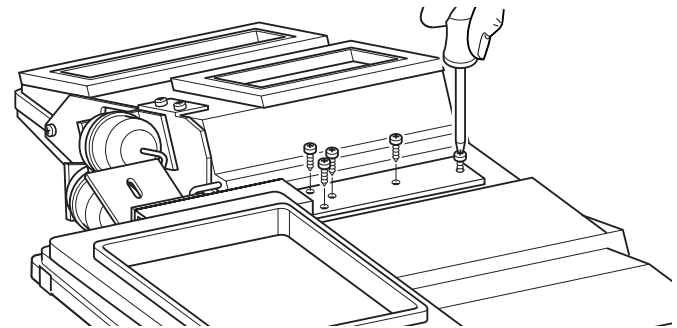
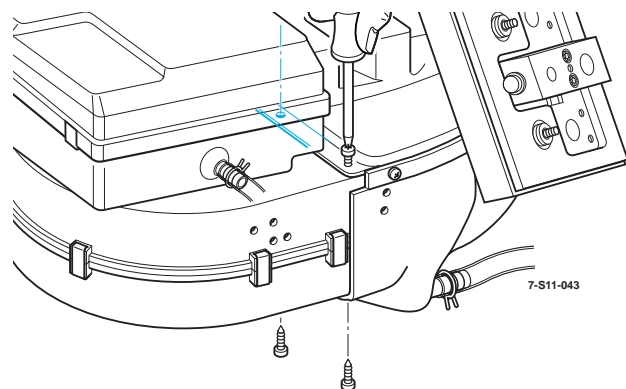

Figure 11-97: Air Intake Box Front Bracket Removal
Figure 11-98: Lower Blower Housing Hardware Removal
- Remove air intake housing from main unit by removing attaching screws at blower housing (Figure 11-98) and bracket at front of unit (Figure 11-97).